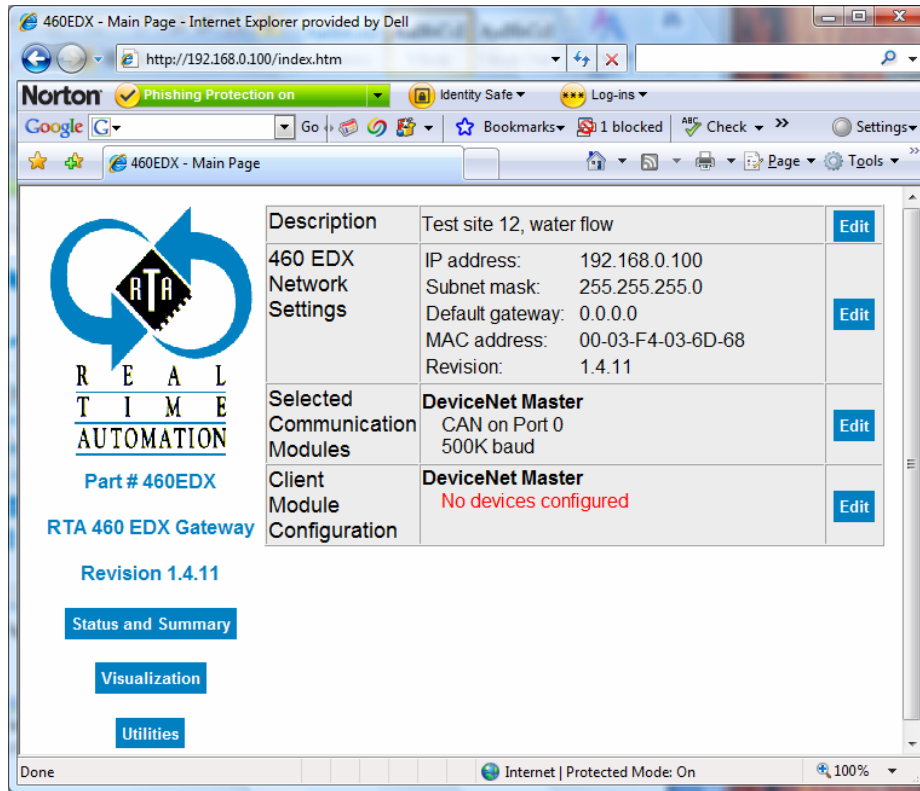

Figure 2-41 DeviceNet Master Client Module Configuration
6. Click on the **Return to Main** button. The RTA 460 Gateway Main Page displays with a Client Module Configuration option. See Figure 2-41.